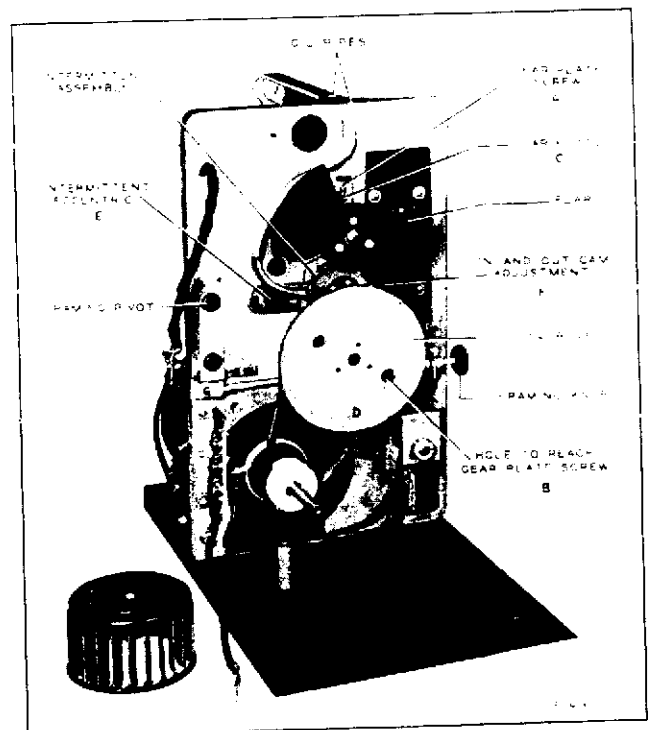

Figure 16—Adjusting Pull-down Mechanism
(4) Replace the film gate on the projector.
e. *Film Pull-Down Claw.* (Refer to fig. 16) The pull-down claw, which imparts the intermittent motion to the film in synchronism with the shutter, must be adjusted properly if pictures of the finest quality are to be obtained. To adjust, remove the projector from the case and the lamp house from the frame of the projector. Then proceed as follows:
(3) *Lateral Adjustment of Claw.* Adjust the lateral position of the claw when the claw is halfway down with the eccentric pivot E (fig. 16) until the claw clears the sprocket hole in the film by about 0.012 to 0.016 inch. To permit this adjustment, loosen the two Allen setscrews that hold the eccentric. The claw should be placed so that it is just inside the straight portion of the sprocket hole and just clears the curved corner of the hole. The eccentric pivot must be in its lowest position